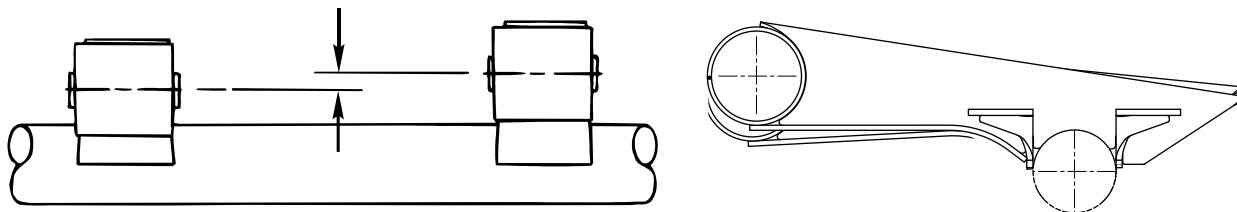

Figure 14: Beams vertically out of parallel
6. **Check** beam parallelism (Figure 14). Adjust as needed.
NOTE: The beams must remain vertically parallel to each other to avoid trailer lean (Figure 14). Check to ensure suspension beam pivots or frame brackets continue to lie flat on the level surface during the entire process.